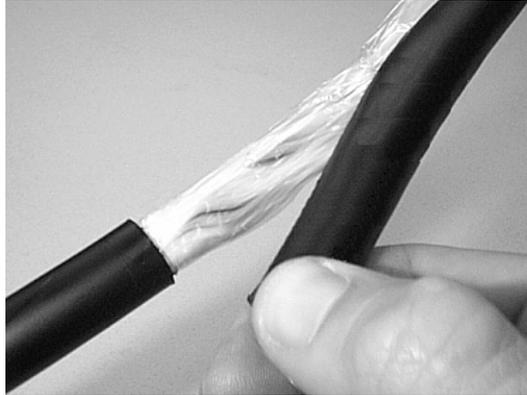

Figure 27 – Remove the cable sheath.
7.9 Remove the cable sheath to expose the dielectric strength elements (Figure 27).